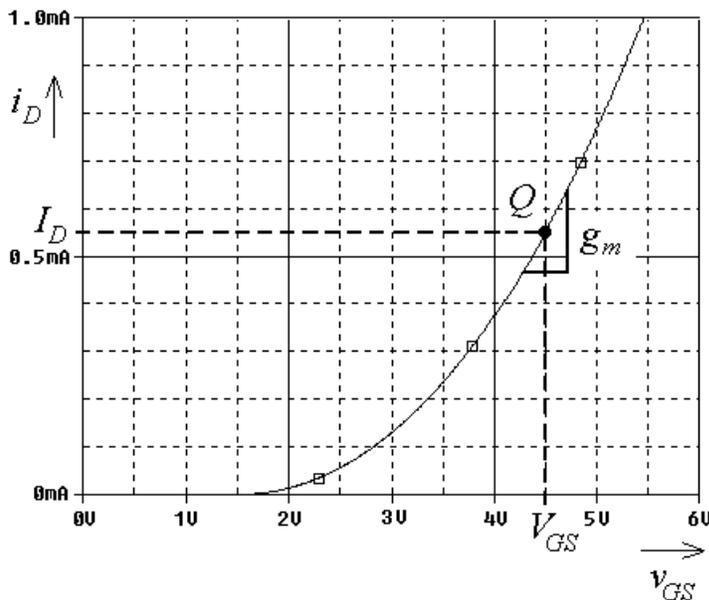

Fig. 3 – The i - v characteristic of the diode-connected n MOSFET of Fig. 2.
The characteristic, expressed by Eq. (2) and shown in Fig. 3, is reminiscent of a diode curve.